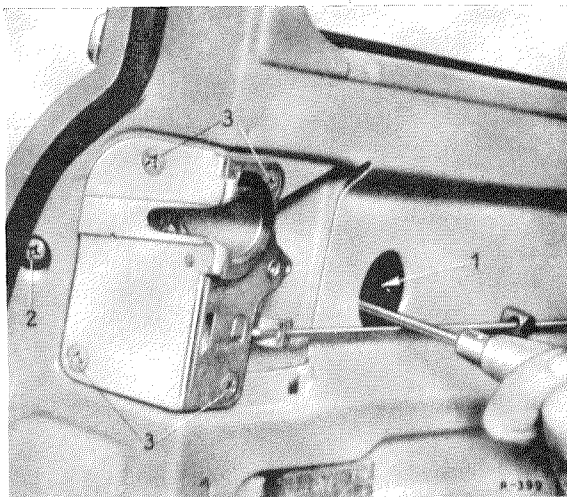

Fig. 72—16/1
2. Back out the fixing screw (1) about 2 turns. Unscrew the fixing screw (2) (Fig. 72—16/1).